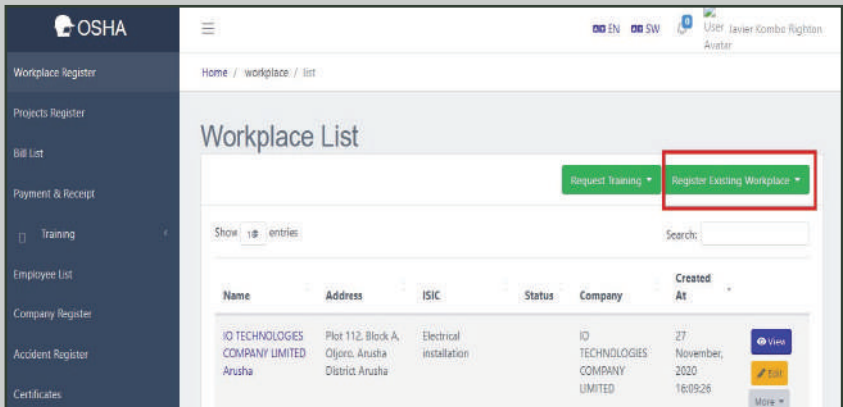

Figure 18: Adding more Workplace form
- i) While on the list of registered workplaces or by clicking Workplace Register menu on top left corner of the home page; click on Register Existing Workplace button to register more workplaces, as shown on Figure 18.
- ii) Select the company name displayed after clicking the button in Figure 18.